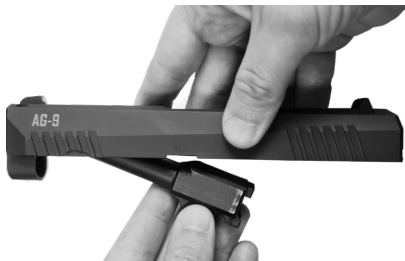

Figure 24-2
8. Remove the barrel from the slide. (Figure 24-2)